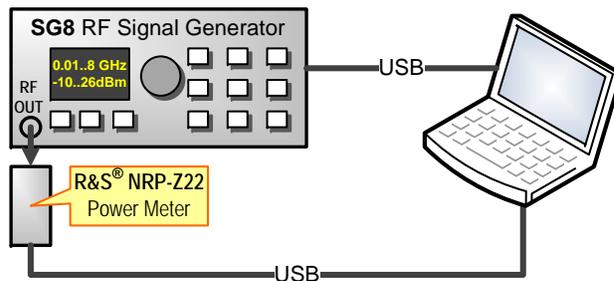

Figure 4: RF level accuracy and calibration area test setup
1. Connect the instruments as shown in figure 4.